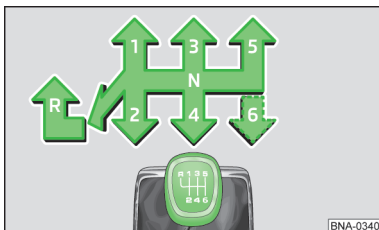

Fig. 63
The shift pattern for the individual gear positions is shown on the gear lever » **fig. 63**.
- Move the gear lever forward into the **R** position » **fig. 63**.